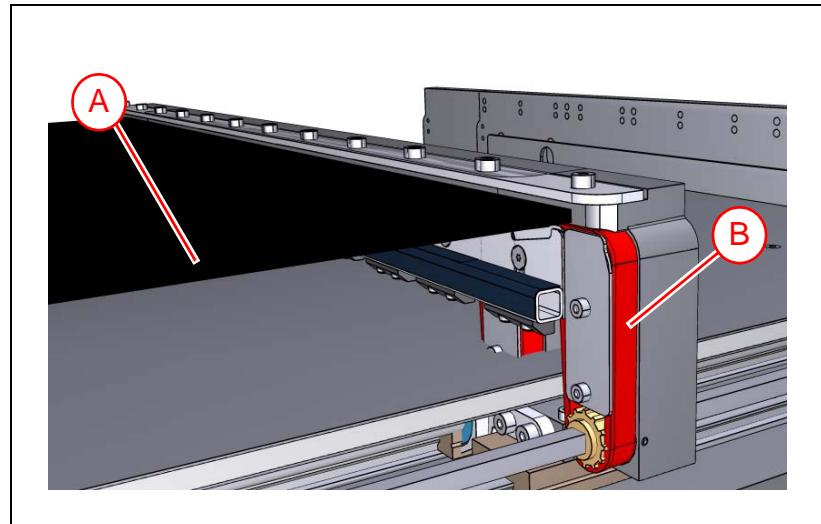

Figure 4-5. Insert area calibration background.
- When prompted to insert board, open the front hood and place a number of support pins ('A' in Figure 4-5) on the conveyors lift table. Distribute the support pins evenly over the place area ('B').
- When ready, insert the area calibration background with the white lines facing down, see Figure 4-3. Orient the background so that the front and back edges of the area calibration background ('A' in Figure 4-5) rest on the conveyor belts ('B').